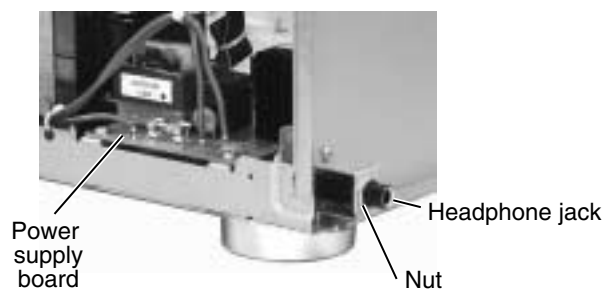

Fig.15
■ Removing the power supply board (See Fig.15 and 16)